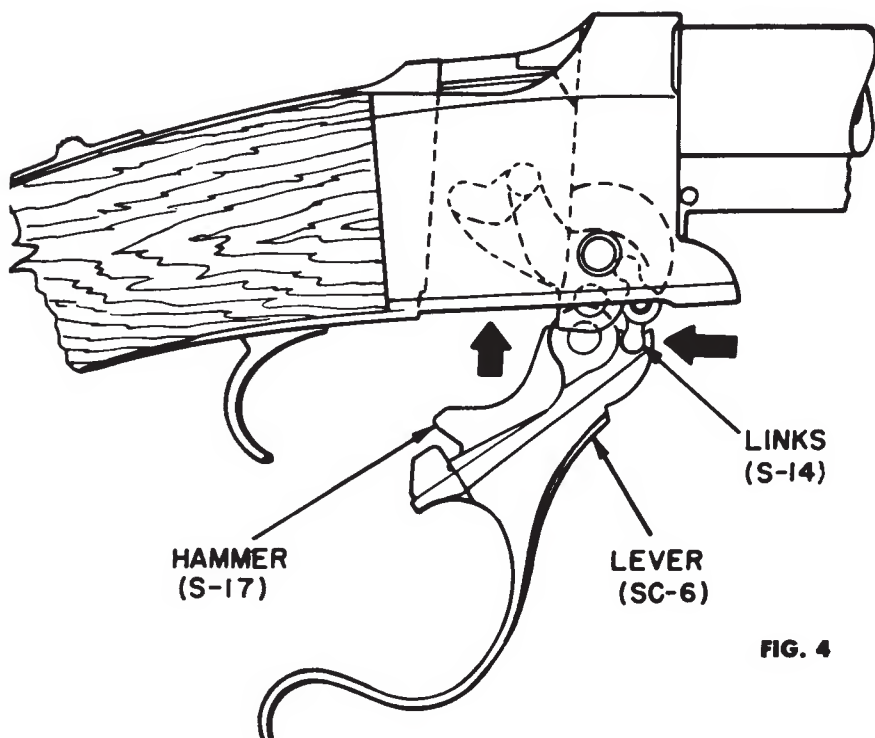

FIG. 4
3. Position hammer in the lever and engage the lever and link as shown in figure 4.